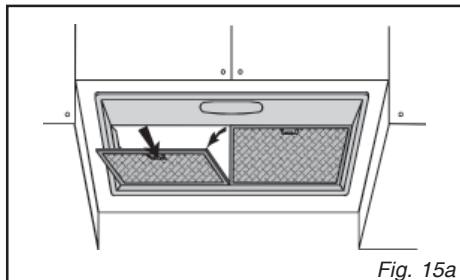

Fig. 15a
• **Removing the grease filter (fig. 15a-15b)**